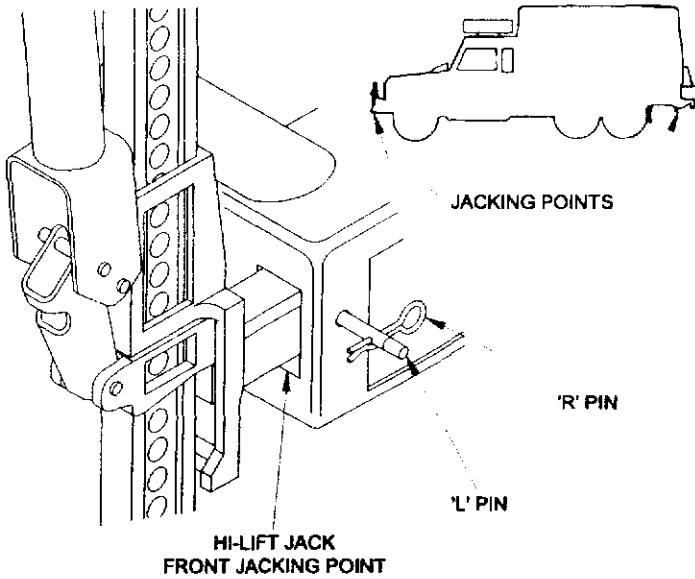
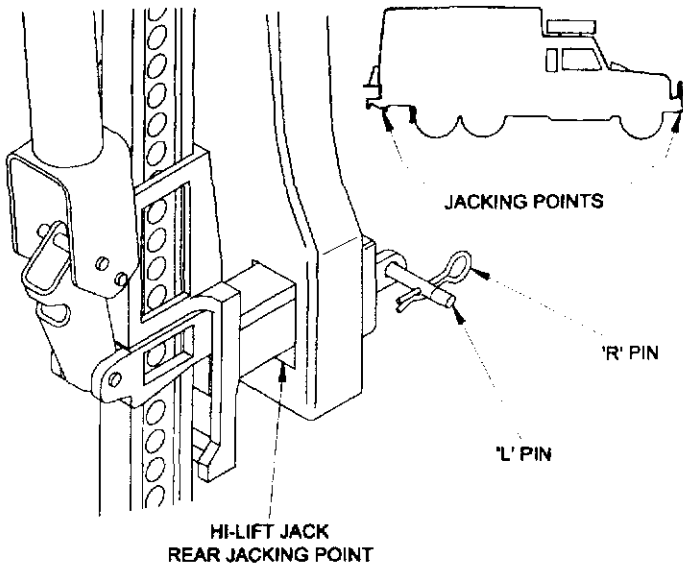

Figure 2-3 Hi-Lift Front Jacking Point and Insertion of Safety Pin
Figure 2-4 Hi-Lift Rear Jacking Point and Insertion of Safety Pin
- (1) Front wheel. Position the jack in the front lifting point (see Fig. 2-3).
- (2) Rear or intermediate wheel. Position the jack in the rear lifting point (see Fig. 2-4).
- (3) Adjust the jack so that the foot rests on the ground, insert the 'L' pin into the jack tongue to secure the jack in place, and insert the 'R' pin (see Fig. 2-3 or Fig. 2-4).